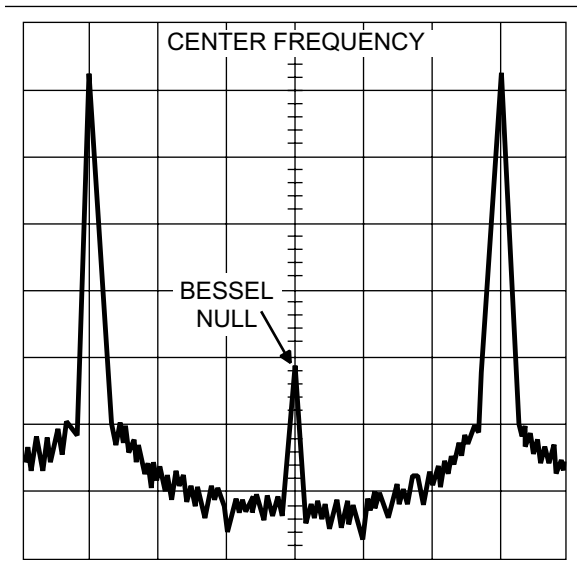

Figure 4-12. Typical Spectrum Analyzer Display of Bessel Null on Φ M Waveform
- e. While observing the first Bessel null (Figure 4-12) on the Spectrum Analyzer display, adjust the value of the DAC's setting to reduce the carrier level as low as possible.
- d. While observing the first Bessel null (Figure 4-12) on the Spectrum Analyzer display, adjust the value of the DAC's setting to reduce the carrier level as low as possible.